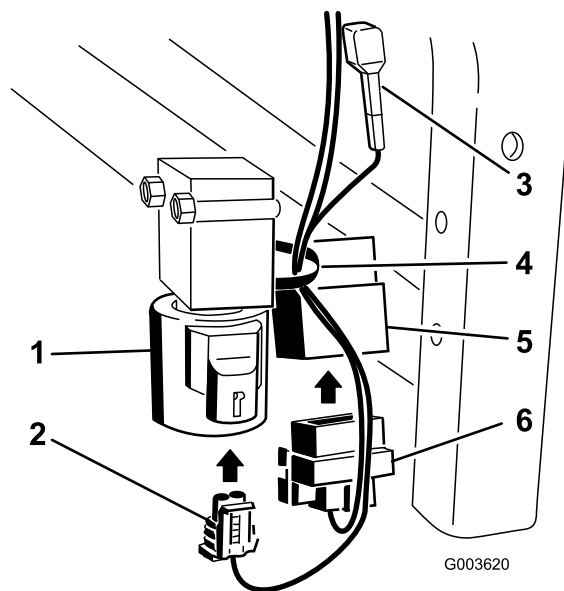

Figure 36
8. Install the square connector to the relay installed next with the valve (Figure 36).
9. Install the small connector to the valve (Figure 36).